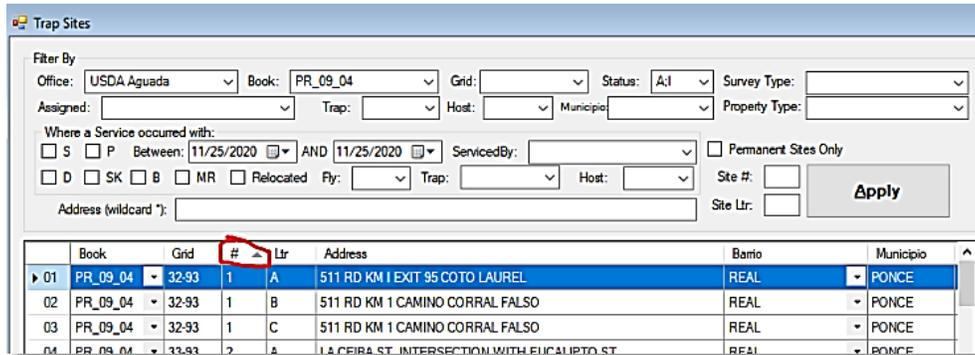

Figure 12. Sort Trap Sites
Step 4: Put the trap sites in ascending order by selecting the # sign. (Figure 12)